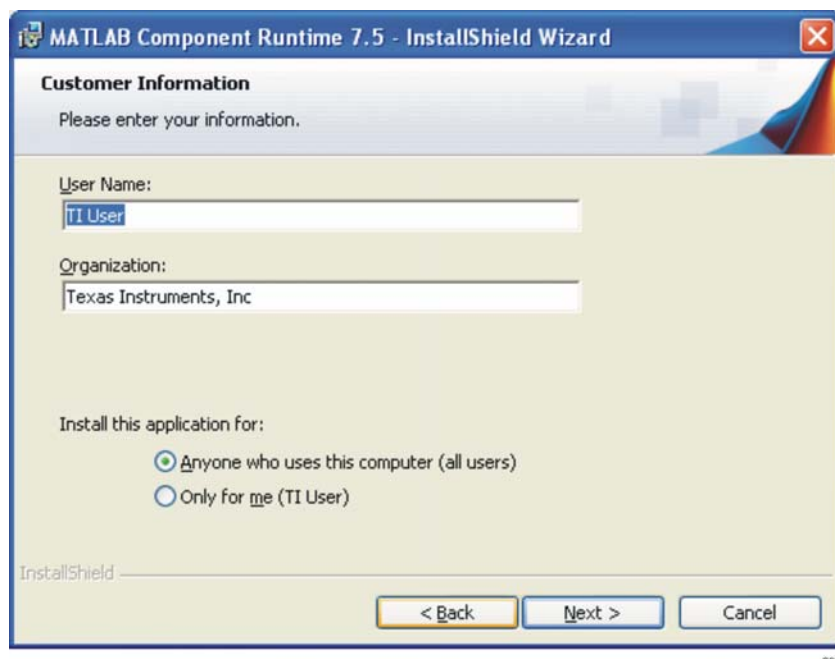

Figure 8. Customer Information
3. For the *Customer Information* (Figure 8) screen, specify the *User Name*, *Organization*, select the desired user option button, and click Next.